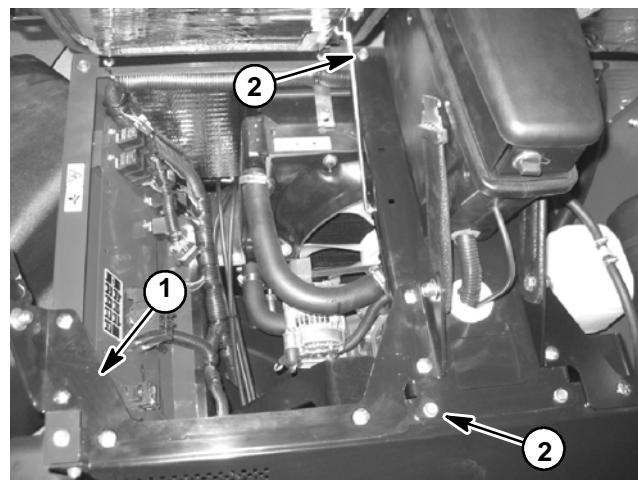

Figure 9
5. Remove six (6) cap screws (items 5 and 6), lock washers and flat washers that secure radiator shroud (item 11) to radiator.
6. Remove carriage screws and flange nuts that secure seat belt bracket assemblies to seat box (Fig. 9). Remove both bracket assemblies from seat box.
7. Remove fasteners that secure console assembly to seat box assembly (Fig. 9). Carefully pivot console assembly rearward to allow radiator access. Take care to not damage the wire harness or throttle cable. Support console to prevent it from shifting or falling.
8. Remove four (4) cap screws (item 5), lock washers and flat washers that secure fan shroud assembly to radiator.
9. Remove two (2) cap screws (item 22), flat washers and flange nuts that attach fan shrouds.
11. Remove two (2) flange nuts (item 19) that secure the isomounts on the bottom of the radiator to the machine frame.
3. Carefully lower radiator to the machine frame. Secure isomounts on the bottom of the radiator to the machine frame with two (2) flange nuts.
4. Position upper fan shroud to radiator. Secure upper shroud to lower shroud with cap screws (item 22), flat washers and flange nuts.
5. Secure fan shroud assembly to radiator with four (4) cap screws (item 5), lock washers and flat washers. Make sure that clearance exists between fan shrouds and fan at all points before tightening fasteners.
8. Secure both seat belt bracket assemblies to seat box with carriage screws and flange nuts (Fig. 9).
9. Secure radiator shroud (item 11) to radiator with six (6) cap screws (items 5 and 6), lock washers and flat washers.